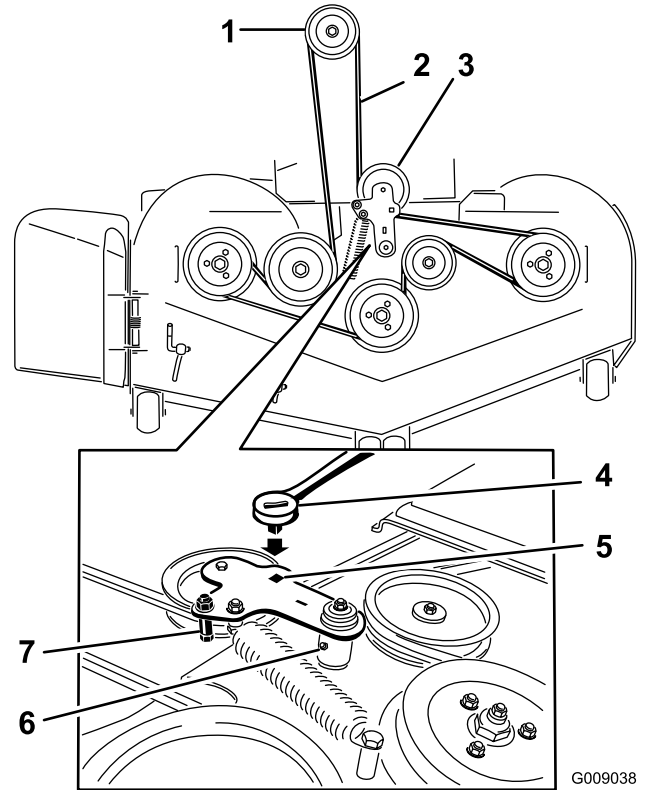

Figure 76
7. Use a ratchet in the square hole in the idler arm to remove tension on the idler spring (Figure 76).
9. Remove the belt guide on the spring loaded idler arm shown in Figure 76.
11. Install the new belt around the mower pulleys and the clutch pulley under the engine (Figure 76).
12. Install the belt guide on the idler arm shown in Figure 76.
13. Using the ratchet in the square hole, install the idler spring (Figure 76).